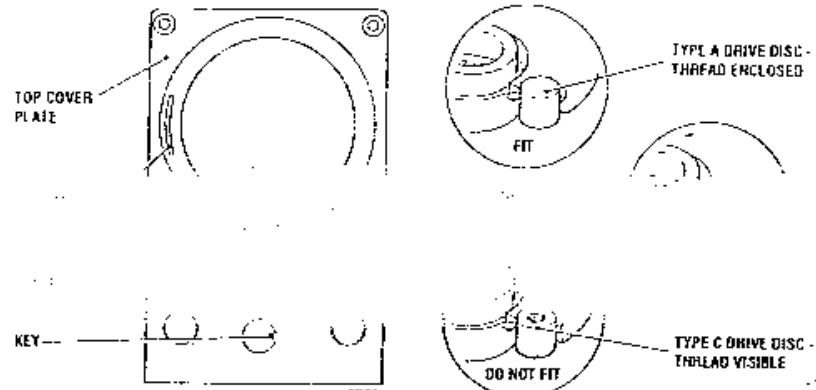

Fig. 3.15 Top Plate And Drive Disc Identification
- a) The keyway in the spindle (79) faces left as viewed from the top and front
- b) The end of the locking collar spring (54) locates in rear slot of locking collar (78).
- c) The lug of the locking collar (78) locates in front of the stop pin (68)
13. Place the pivot pin (58) into the hole of a new interlock plunger (59) and then into the hole of bell crank (63). Secure in place with a new circlip (60) using interlock circlip applicator Part No. 2802-8045-000.
14. Place a new roller (77) onto the stepped screw (62), fit it to the bell crank (63) and torque tighten to 0.6 Nm. Ensure that the roller revolves freely.
15. Lightly grease the bore, keyway and slots of the platform assembly (85) with fluorinated grease and fit the platform assembly over the spindle. Ensure that the slot is to the left of the interlock block when viewed from the front.
16. Insert the two pins of the lever platform (56) into the keyways of the platform. Fit two new bearing bushes (57) onto the central pins of the lever. Do not drop the assembly into position in the interlock block at this stage.
17. Place two new bearing bushes (57) onto the pivot pins of the bell crank (63) and lightly coat the slots of the bell crank (63) with fluorinated grease.
18. Carefully locate the interlock plunger (59) into the interlock bush (83) and at the same time position the keyways of the bell crank (63) onto the pins of the lever platform (56)
19. Carefully position all four bearing bushes (57) into the slots in the interlock block so that the counter-bored recesses are uppermost. Secure with four screws (76). Torque tighten to 0.6 Nm
20. Referring to Fig. 3.15, either refit the drive disc (64) identified as Type A into the interlock block or fit a new drive disc identified as Type B into the interlock block. Ensure that the drive disc fits into the 'T' of the rotary valve.